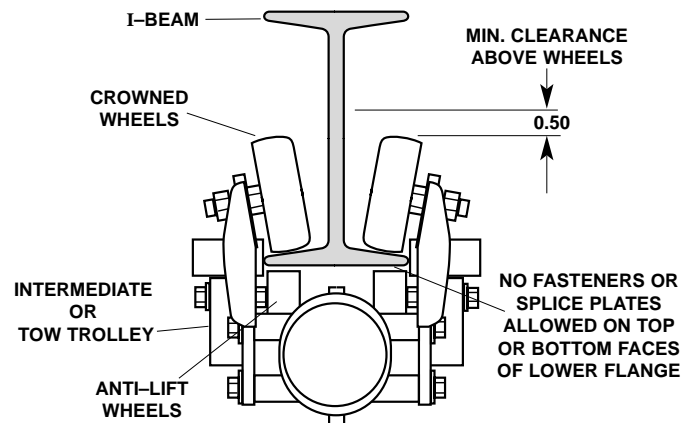

FIGURE 2-TROLLEY CLEARANCE
1. Mount I-beam track to suitable framework that is strong enough to support the entire weight of the festoon system (weight of I-beam, hanging hardware, trolleys and cables or hoses which will be carried by the festoon). Make sure hardware used for hanging I-beam will not interfere with free trolley movement. Refer to Figure 2-Trolley Clearance.
On previously installed track, check all joints and hangers for clearances shown (Fig 2).
3. Join beams by welding, keeping clearances shown in Figs 2 & 3. Grind welded joints smooth (Fig 3).